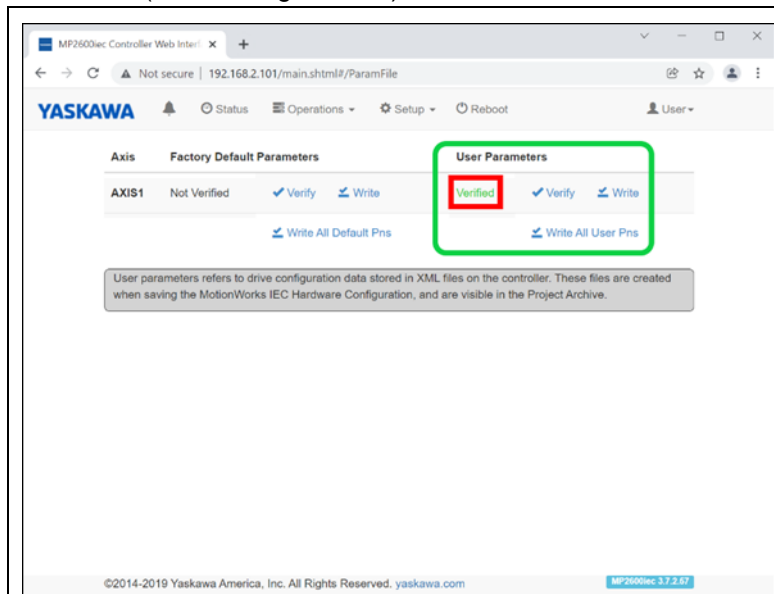

Figure 5-23
- v. Confirm that the 'User Parameters' write function is "Verified" by pressing the 'Verify' button. (Refer to Figure 5-23)